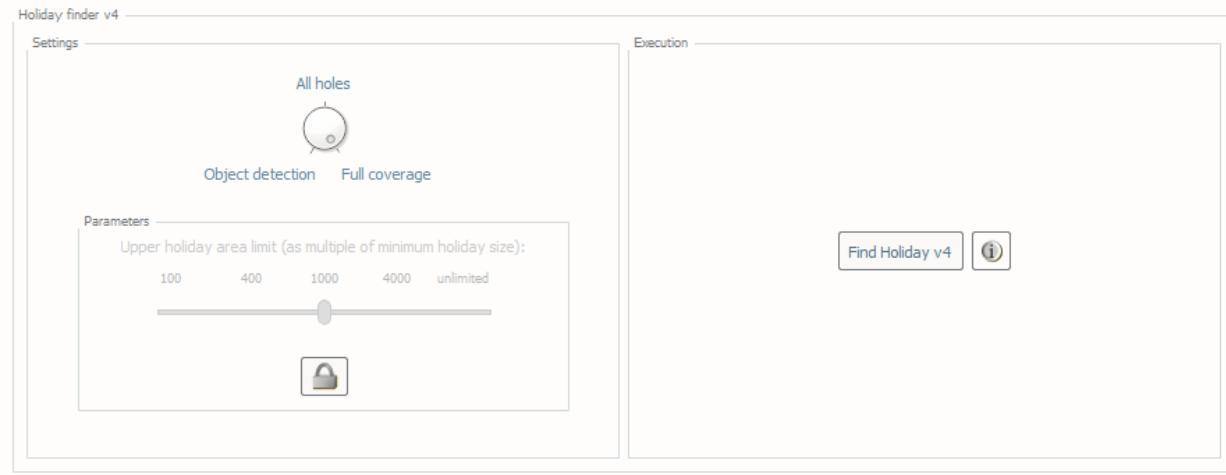

Fig. 2.18: The Detect holidays tab.
- Select the **Detect holidays** tab (Fig. 2.18) on the bottom of the QC Tools interface.